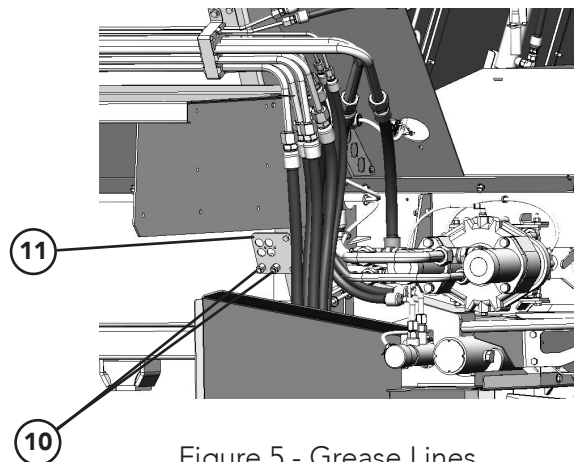

Figure 5 - Grease Lines
- Figure 5 - Remove the Grease Lines (10) from Bracket (11).